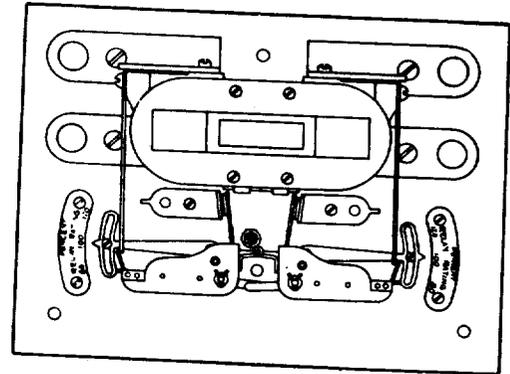
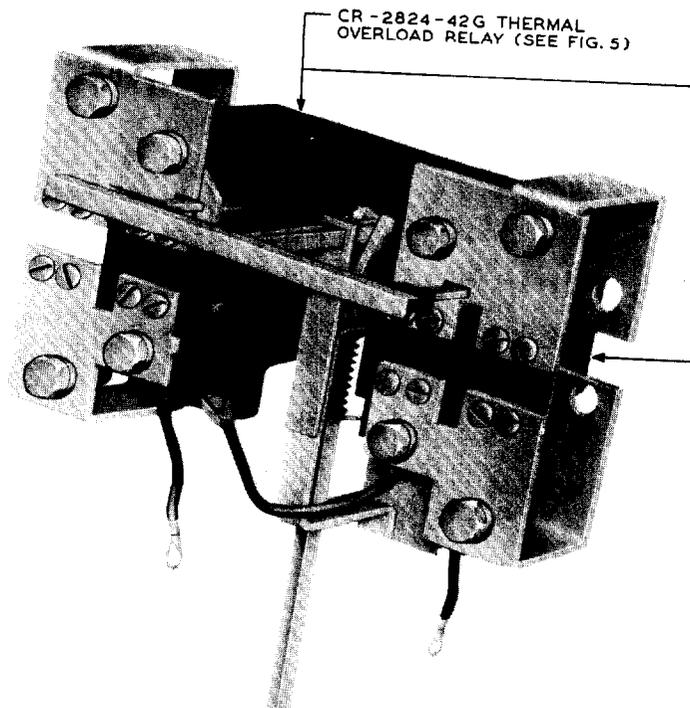

Fig. 6 - CR-2824-TC221-C Thermal Overload Relay
Fig. 16 - CR9905G101A2 Thermal Overload Relay
3.08 The CR-2824-TC221-C thermal overload relay shown in Fig. 6, is replaced only as a unit by the CR9905G101A2 thermal overload relay shown in Fig. 16. On the form K22 starter, the leads can be disconnected easily after removing the three mounting screws and tipping the panel forward.
3.10 The CR9905G101A2 thermal overload relay shown in Fig. 16, can be replaced as a unit, or the heater elements in the relay can be replaced. See 3.11.
9. To add new Fig. 16 for the CR9905G101A2 thermal overload relay.